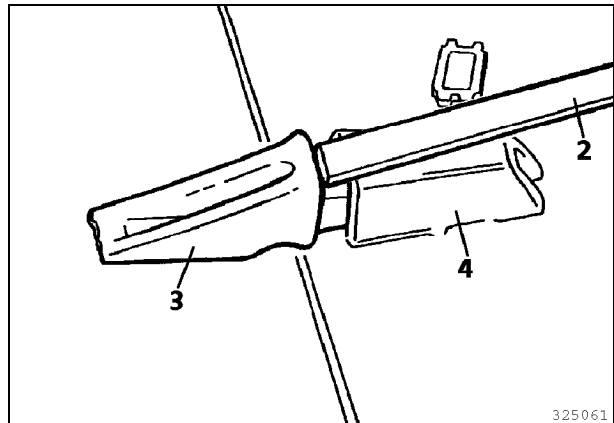

Fig. 2
- Drive tooth (3, Fig. 2) out of socket (4) with an appropriate flat object made of soft metal or hardwood.